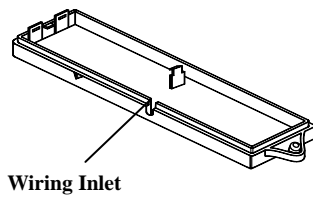

Fig. 1
1. Loosen the screw of the radio transmitter i4H-TX-3FS and open the cover. Use a pair of pliers or cutter to break the plastic of the wiring inlet (Fig. 1). Then connect the detector to the AUX Input Terminals of the transmitter PC Board and insert two AAA alkaline batteries.